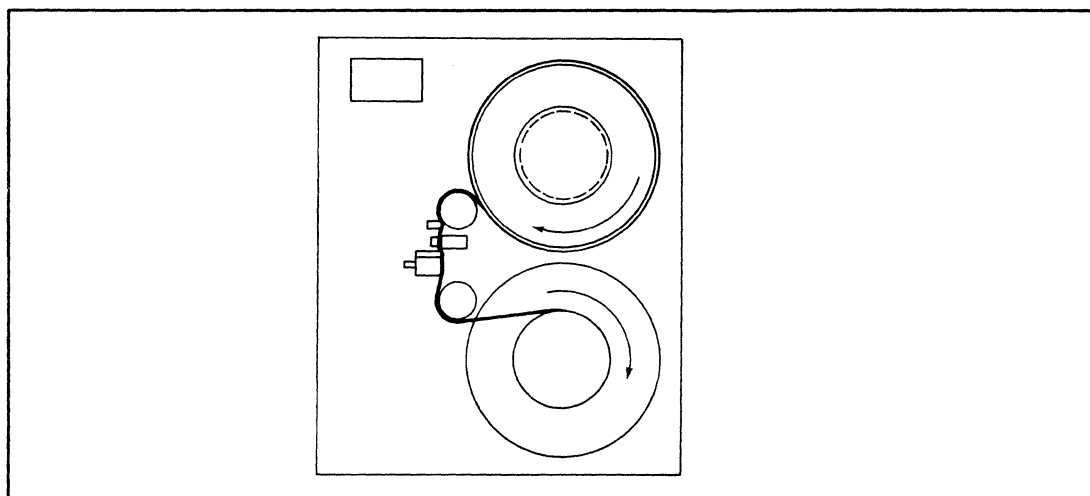

Figure 3-3. Tape Path
5. Thread the magnetic tape over the tape path as shown in Figure 3-3. (A diagram of the tape path also appears on the tape deck.)
1. Open the dust cover door and press the hub release button (Figure 3-3) on the face of the supply reel hub. The hub will unlatch and the supply reel can be removed.